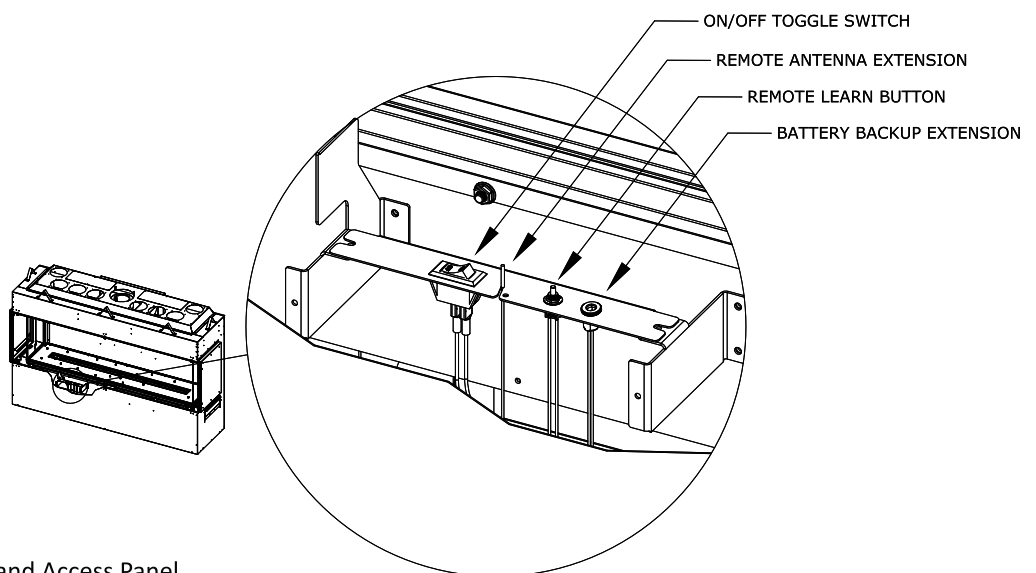

Figure 9.1 - Backup Battery Pack and Access Panel
2. Press the remote learn button. See Figure 9.1. The IFC module will BEEP (3) times and illuminate an amber LED. This indicates the receiver is ready to synchronize with the transmitter.
3. Within (5) seconds, push the ON/OFF button on the remote control. The receiver will BEEP (4) times to indicate the transmitter's command is accepted, and is set to the transmitter's particular code. The pilot will automatically ignite.
- To plug in the backup battery pack you first have to remove the safety screen barrier. Insert the (4) AA Batteries into the backup battery back and plug the battery pack into the barrel jack adapter on the access panel. See Figure 9.1.